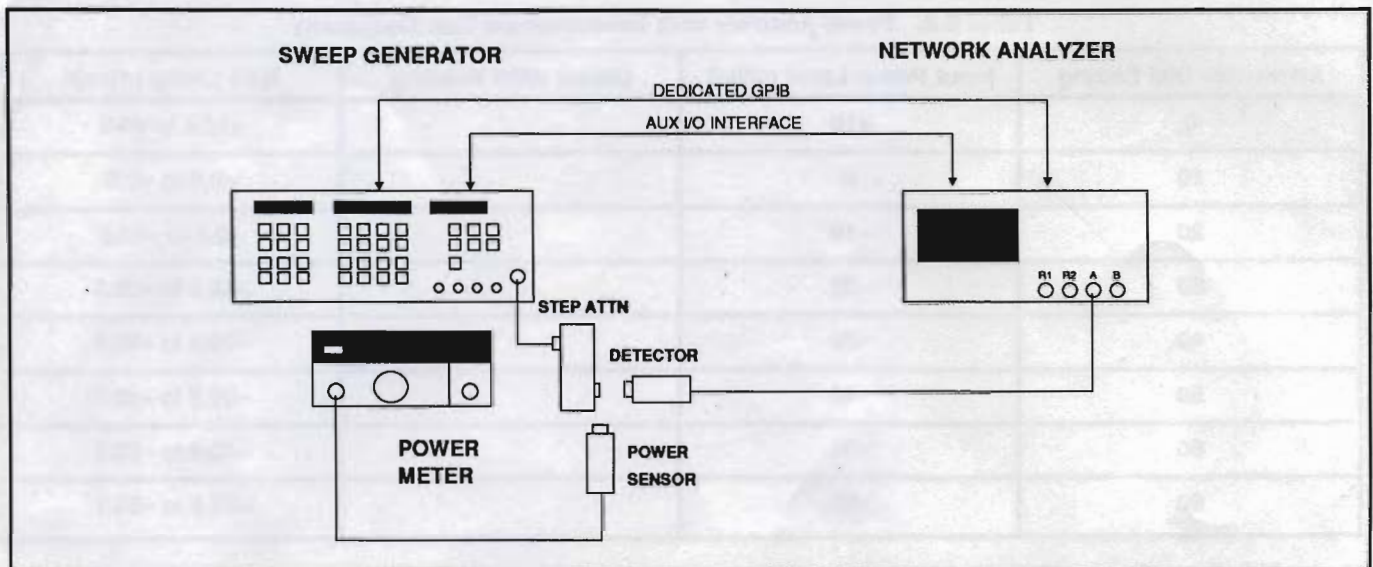

Figure 2-2. Test Equipment Setup for Signal Channel Accuracy Test, RF Method
1. Set up the test equipment as shown in Figure 2-2.
The power measurement system using the recommended test equipment listed in Table 2-1 and shown in Figure 2-2 contains inherent measurement uncertainties. These uncertainties are explained in the following paragraphs.